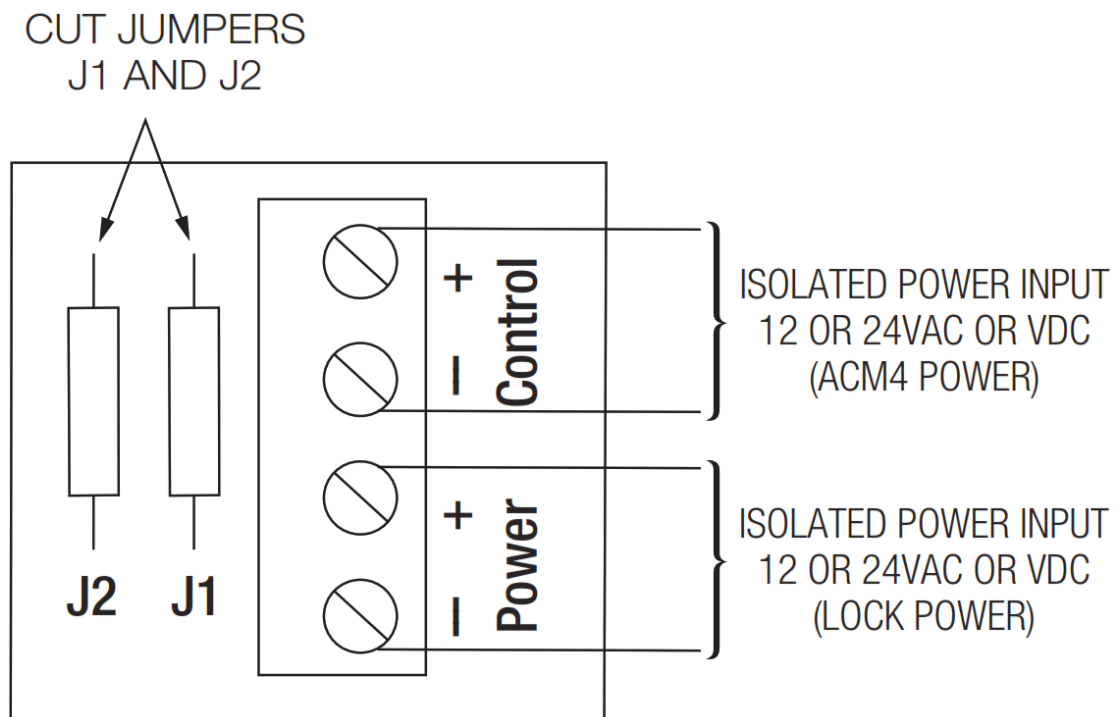

Fig. 3
5. Fire Alarm Interface options (Figs. 3 through 7, pg. 6 – 7):
Connect the positive (+) and negative (–) from the FACP signaling circuit output to the terminals marked [+ INP –]. Connect the FACP EOL to the terminals marked [+ RET –] (polarity is referenced in an alarm condition). Jumper J3 must be cut (Fig. 3, pg. 6).
FACP INTERFACE T, + INPUT —	Fire Alarm Interface trigger input from FACP. Trigger inputs can be normally open, normally closed from an FACP output circuit (Fig. 3 through 7, pg. 6-7).